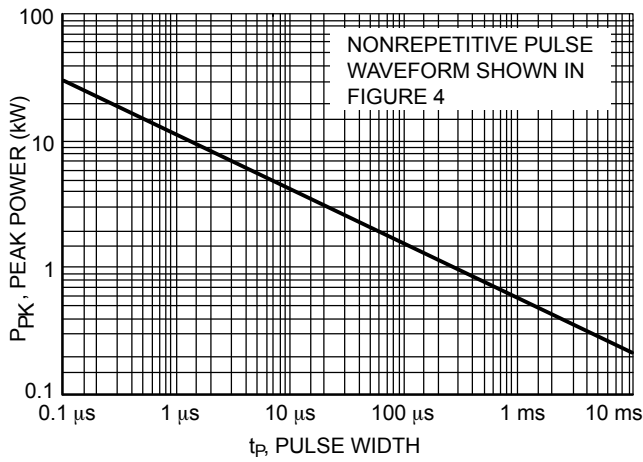
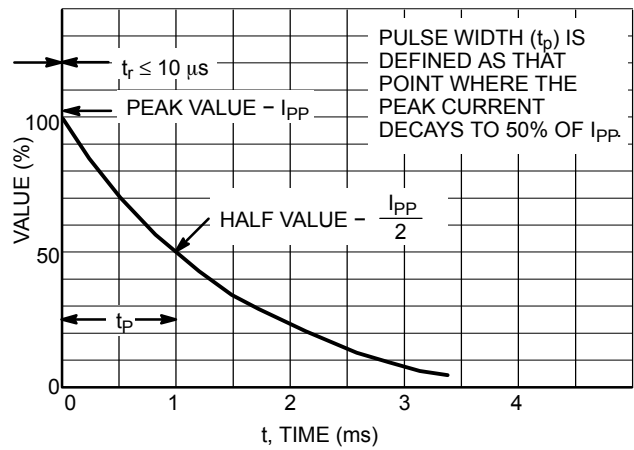
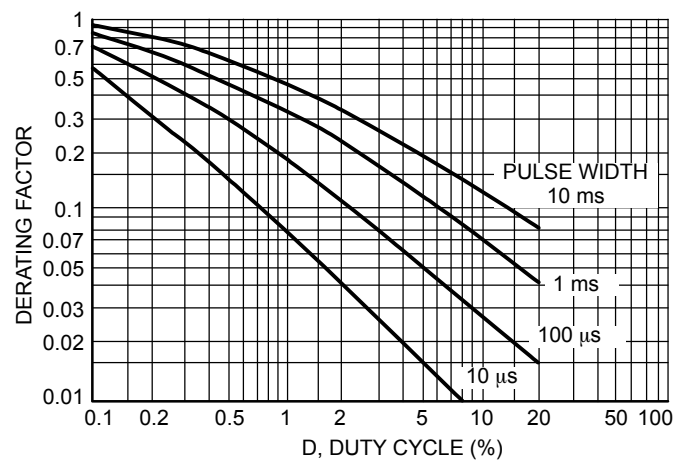

Figure 1. Pulse Rating Curve
Figure 4. Pulse Waveform
Figure 6. Typical Derating Factor for Duty Cycle
5. Surge current waveform per Figure 4 and derate per Figures 1 and 2.
The data of Figure 1 applies for non-repetitive conditions and at a lead temperature of 25°C. If the duty cycle increases, the peak power must be reduced as indicated by the curves of Figure 6. Average power must be derated as the lead or ambient temperature rises above 25°C. The average power derating curve normally given on data sheets may be normalized and used for this purpose.
At first glance the derating curves of Figure 6 appear to be in error as the 10 ms pulse has a higher derating factor than the 10  $\mu$ s pulse. However, when the derating factor for a given pulse of Figure 6 is multiplied by the peak power value of Figure 1 for the same pulse, the results follow the expected trend.